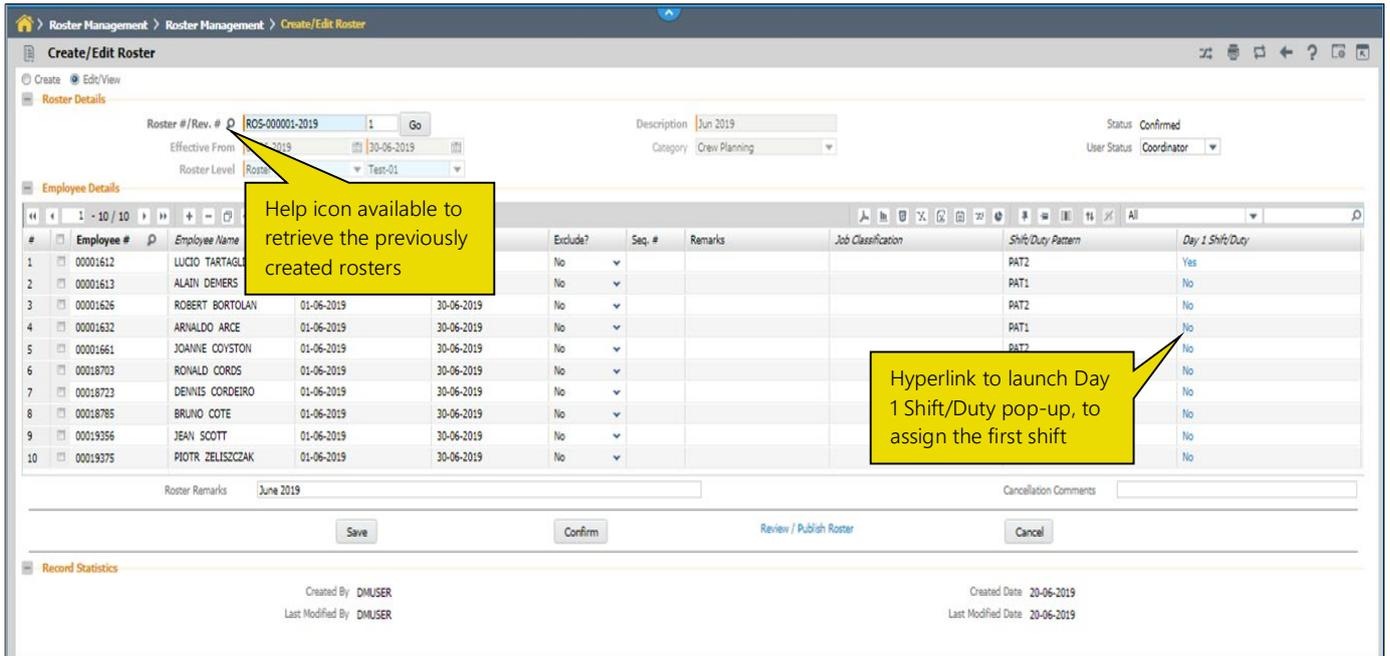

Figure 2.10 Modifying Roster
1. Select the **Edit/View** radio button in the **Create/Edit Roster** page. *See Figure 2.10.*